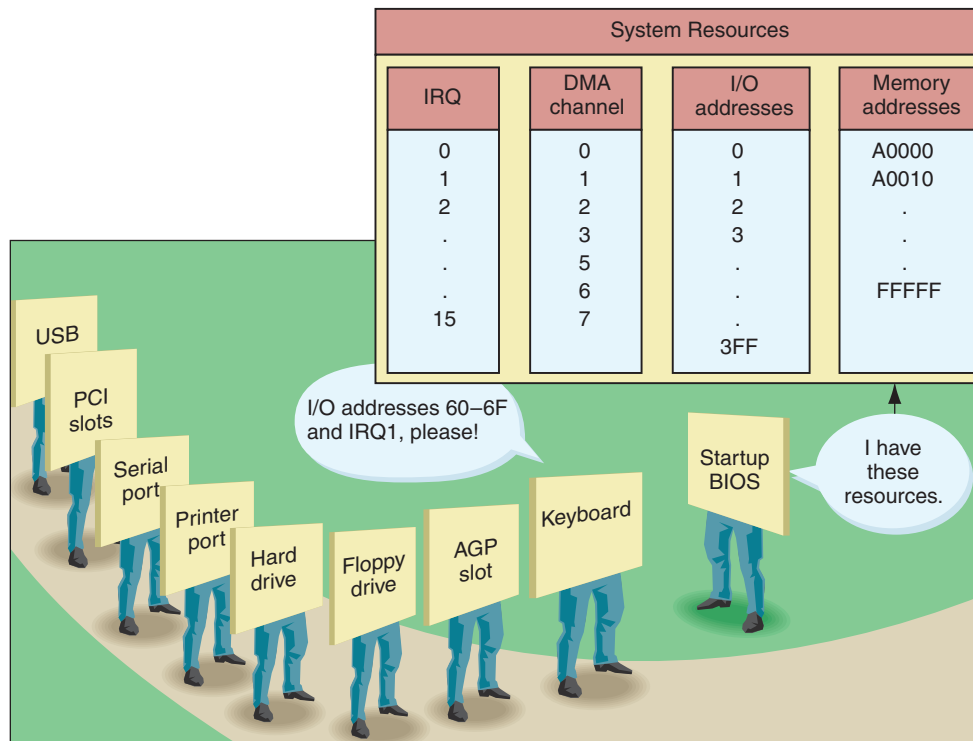

Figure 5-34 Boot Step 1: The BIOS startup program surveys hardware resources and needs and assigns system resources to satisfy those needs
1. *The startup BIOS runs the POST and assigns system resources.* Recall from Chapter 4 that the POST (power-on self test) is a series of tests performed by the startup BIOS to determine if it can communicate correctly with essential hardware components required for a successful boot. The startup BIOS surveys hardware resources and needs, and assigns system resources to meet those needs (see Figure 5-34). The startup BIOS begins the startup process by reading configuration information stored primarily in CMOS RAM, and then comparing that information to the hardware—the processor, video slot, PCI slots, hard drive, and so on. (Recall that CMOS RAM is a small amount of memory on the motherboard that holds information about installed hardware.)